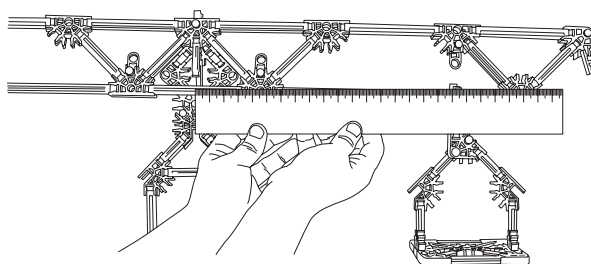

Fig. 4
4. On the other side of the fulcrum, attach and then slide the effort pan (E) along the lever until the system is balanced.
5. Measure the distances from the load pan to the fulcrum and from the effort pan to the fulcrum. (Fig. 4) Record these distances as Trial 1 in Table 1, Balance Worksheet.